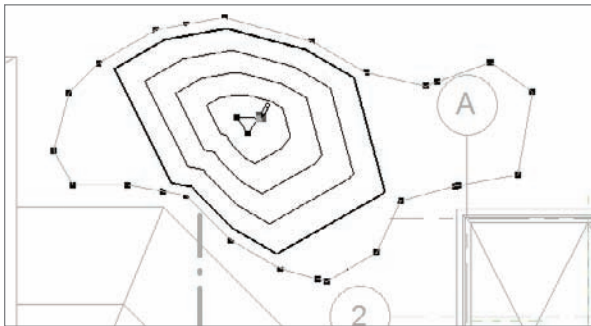

FIGURE 18.9 Adding a new datum elevation
1. Select the newly formed toposurface as shown in Figure 18.9.
5. Pick three points near the center of the hill, as shown in Figure 18.9.